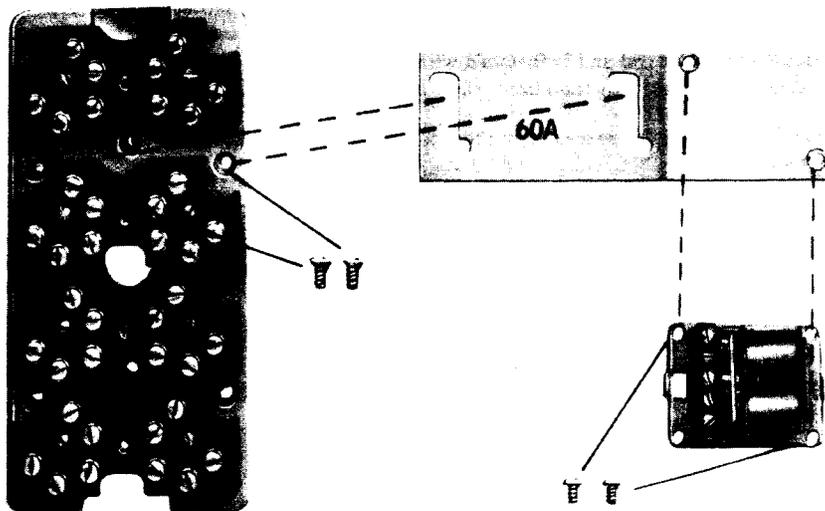

Fig. 16—60A Bracket
* The mounting screws used to secure the 168-type backboard also hold the 60A bracket (Fig. 16).